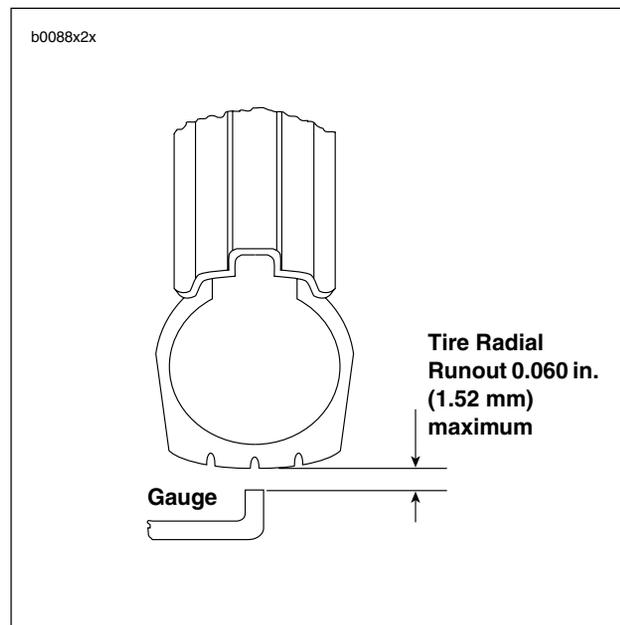

Figure 2-19. Checking Tire Radial Runout
1. See Figure 2-19. Turn wheel on axle and measure tread radial runout.